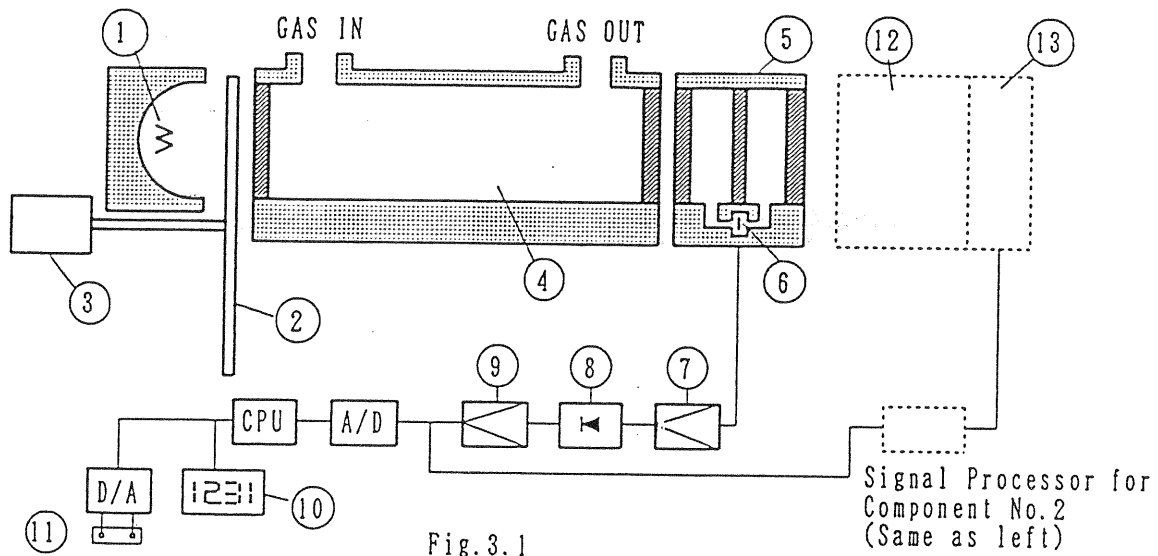

Fig.3.1
The principle of composition of the FUJI Model ZRH Infrared Gas Analyzer is shown in Fig.3.1.
A dual components analyzer has additional Measuring Cell ⑫, Detector ⑬ and signal processing electronics the same as for the 1st component. As shown in Fig.3.1, they proceed with the same measuring process.